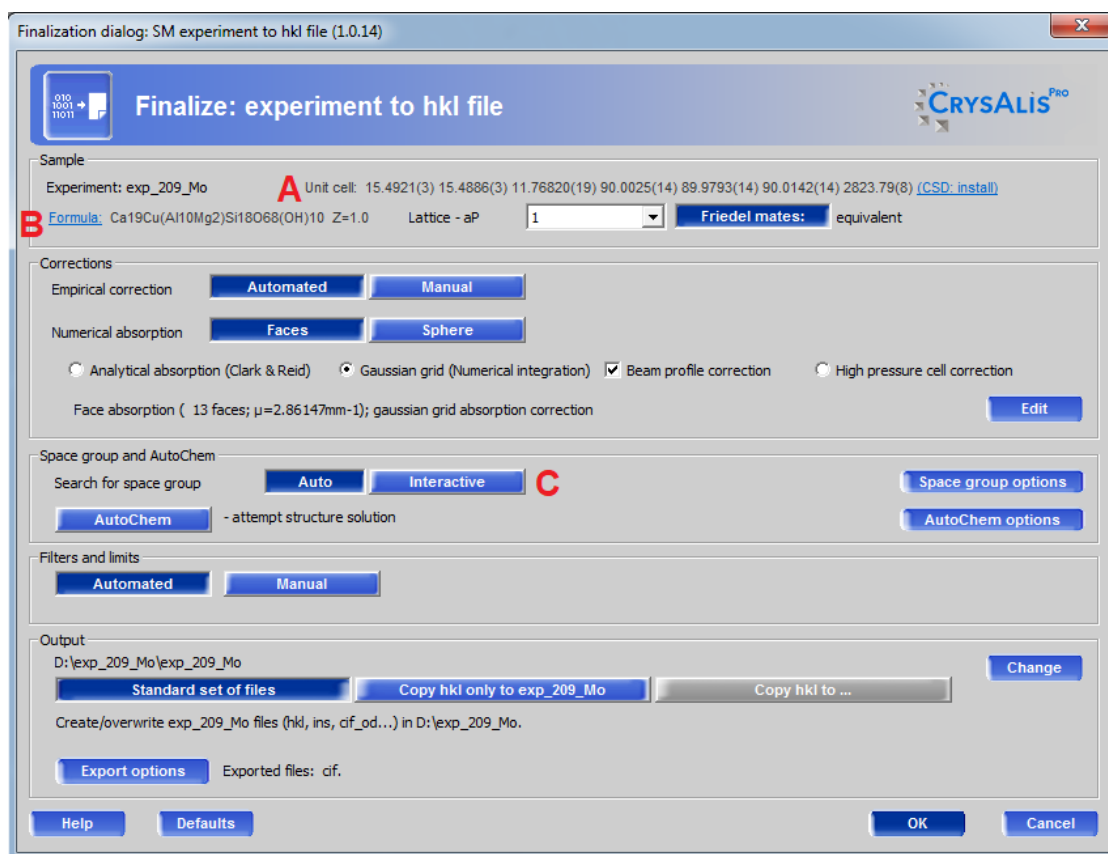

Fig. 19. Finalize assistant window.
9) Press the arrow close by the *Data Reduction* menu (Fig. 16A) and then *Finalize* (Fig. 16C), to open the *Finalize: experiment to hkl file* window (Fig. 19).
10) In this window check again the unit-cell parameters (A), the chemical formula and Z value (B), and press *Interactive* for the space group determination (NOTE: if you are sure of the space group choice you can use *Auto*).